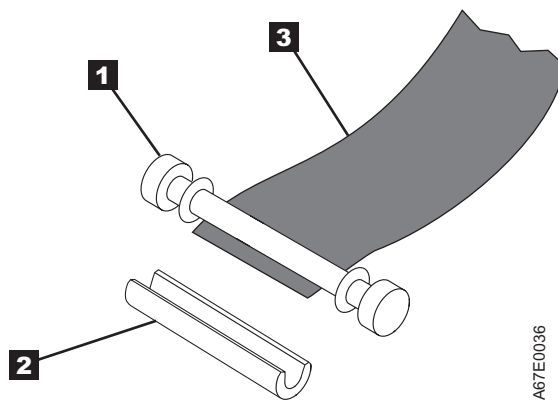

Figure 9-14. Removing the C-clip from the leader pin. Use your fingers to push the C-clip from the leader pin.
5. On the leader pin (1 in Figure 9-14), locate the open side of the C-clip (2 in Figure 9-14). The C-clip is a small black part that secures the tape (3 in Figure 9-14) to the pin.